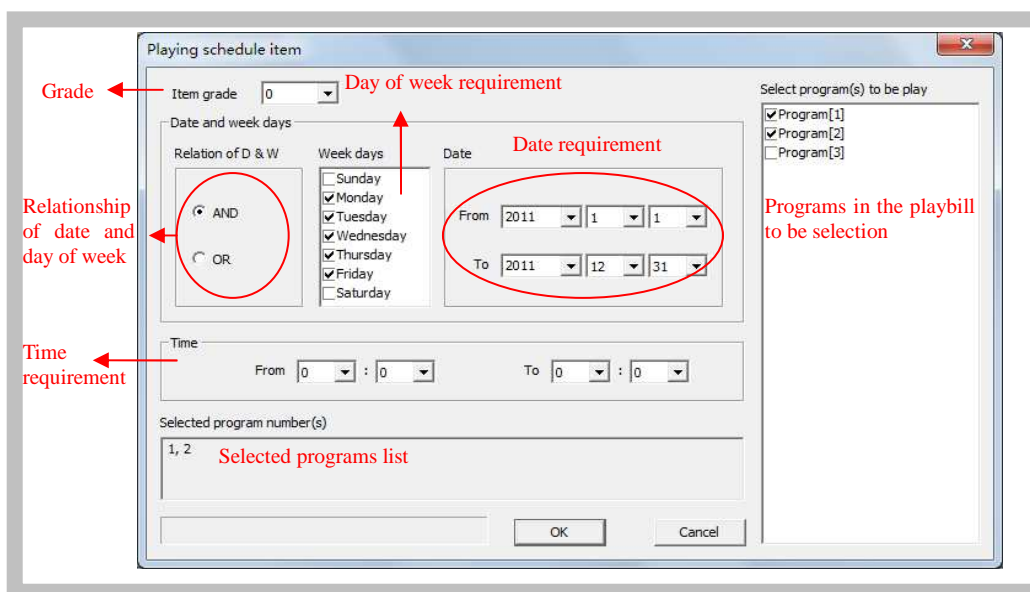

Figure42 Edit a playing schedule
2) Click “Add” button, or select an old schedule and click “Edit” button, the “Play schedule item” dialog box pops up, as Figure42 shown.